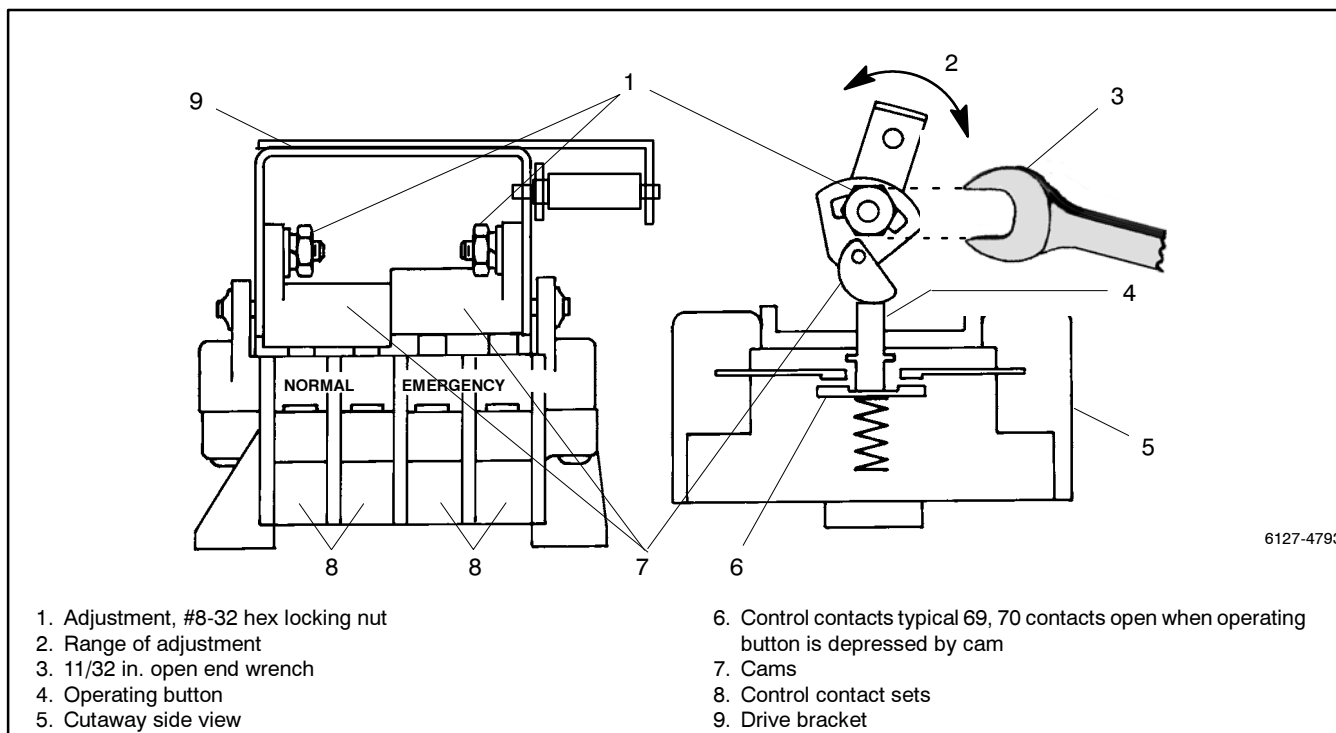

Figure 9-19 TS Control Contact Adjustment
5. If adjustment of contacts 71-72 and 9-8 is necessary, proceed as follows (refer to Figure 9-18 and Figure 9-19):
- Insert the 1/4 in. diameter rod into the center hole in the side of weight. Use a continuity lamp to verify that all contacts are open in this position. Measure 1 1/8 in. max stroke between the leather washer and coil frame (Figure 9-18). If necessary, turn the hex nut to obtain the proper stroke (Figure 9-19).